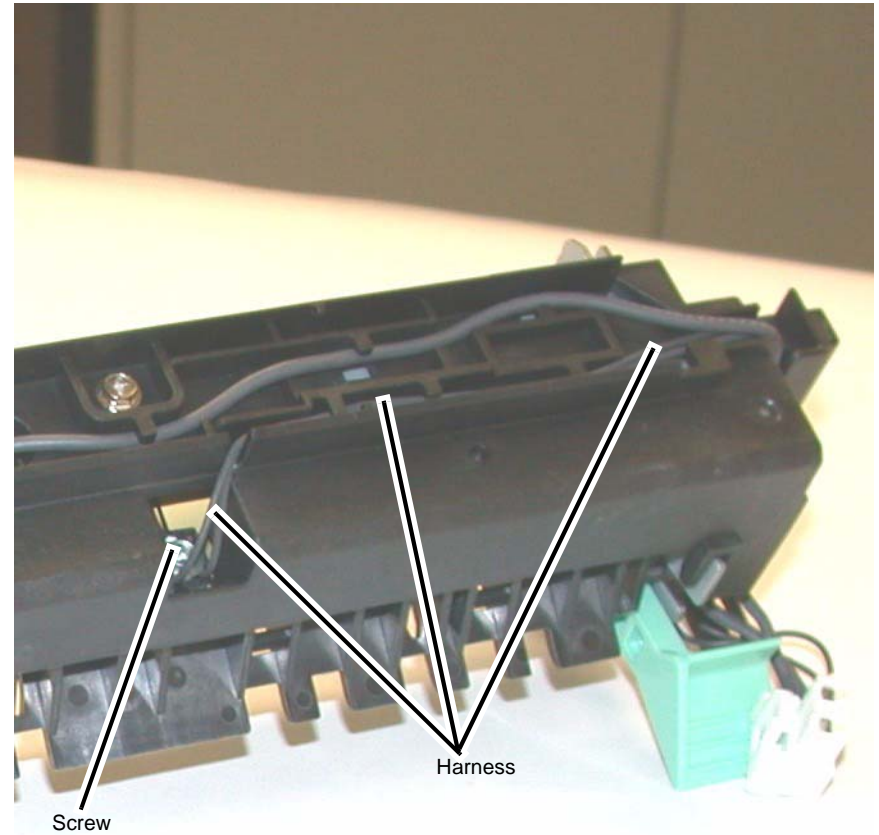

Figure 2 Removing the Temperature Control Sensor Assembly
3. Remove the Temperature Control Sensor Assembly (Figure 2).